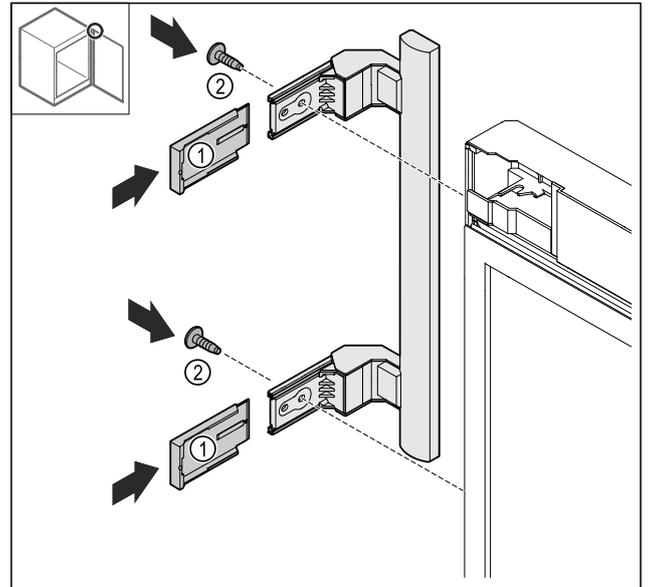

Fig. 20
- ▶ Push the covers Fig. 20 (1) on.